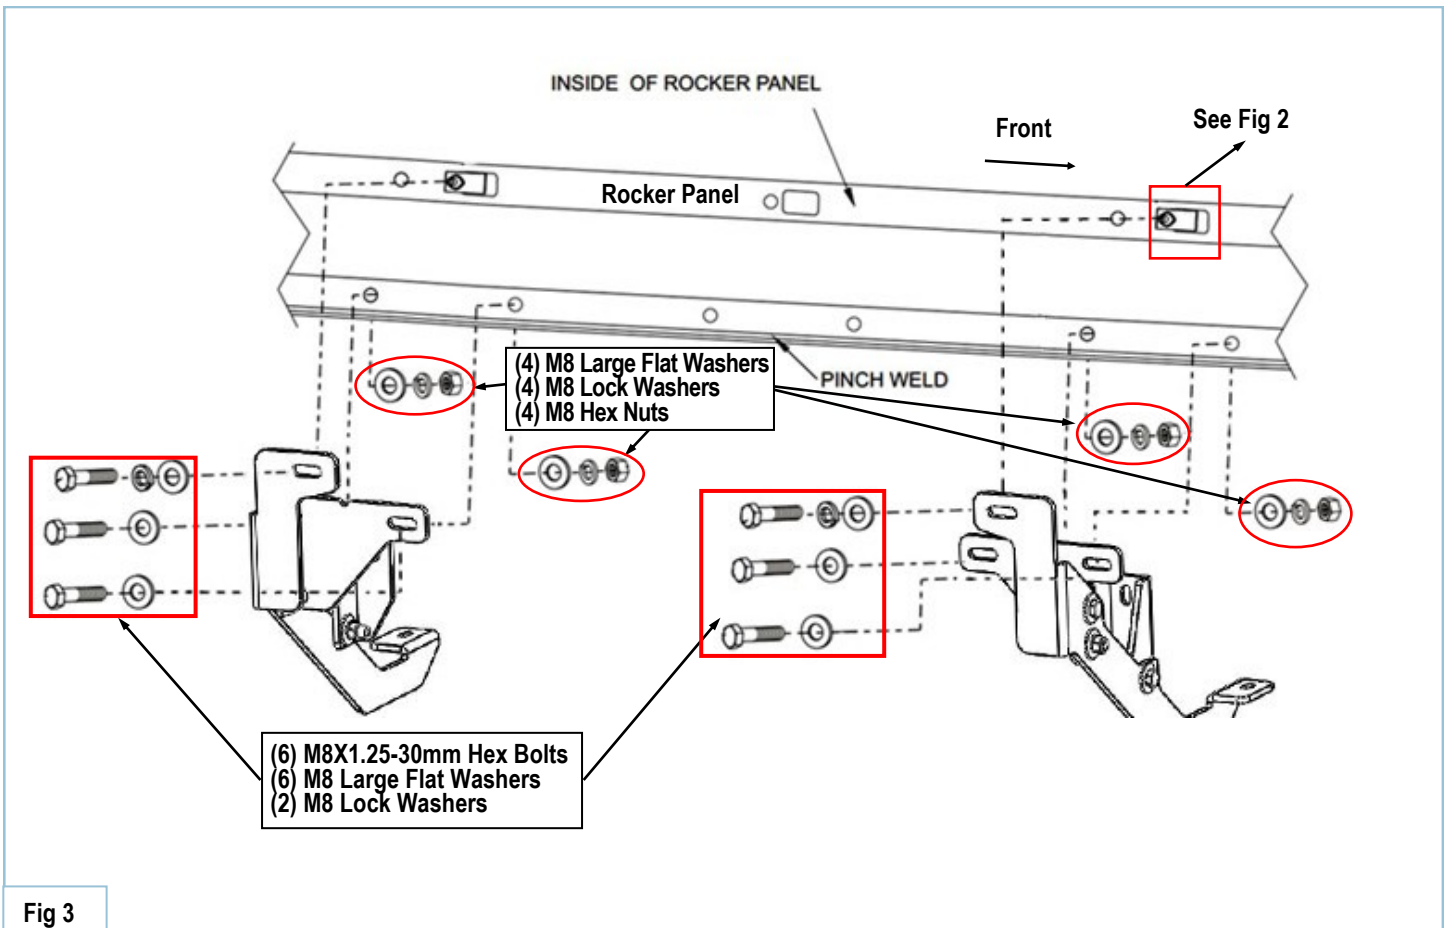

Fig 3
Install M8 Clip Nut to square hole as shown, **(Fig 2)**. Attach the assembled brackets to the rocker panel with (1) M8X1.25-30mm Hex Bolt, (1) M8 Large Flat Washer and (1) M8 Lock Washer; to pinch weld with (2) M8X1.25-30mm Hex Bolts, (4) M8 Large Flat Washers, (2) M8 Lock Washers and (2) M8 Hex Nuts, **(Fig 3)**. Do not fully tighten hardware at this time.
Repeat for driver side rear brackets installation, **(Fig 3)**. Do not fully tighten hardware at this time.